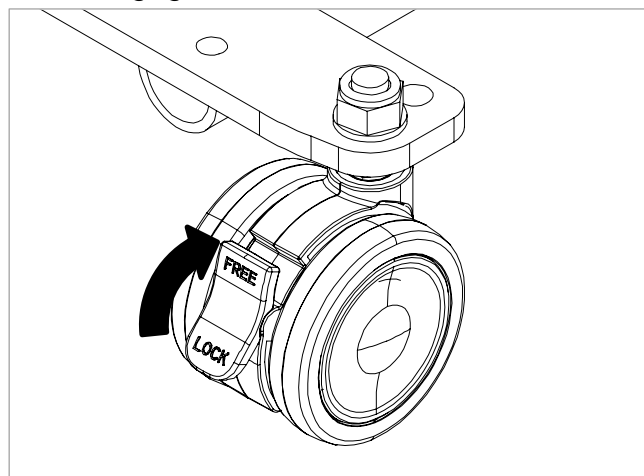

Figure 14.2
2. To release the brake, press the upper part of the brake lever (marked free) as indicated in Figure 14.2 until the lever disengages.